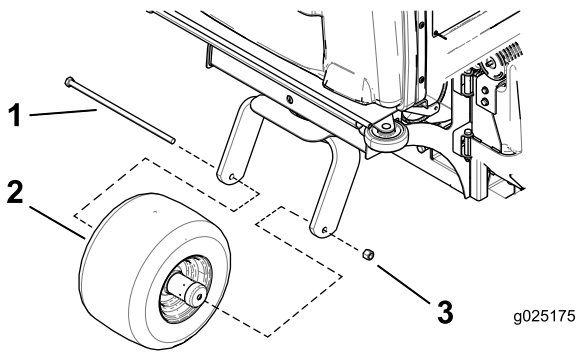

Figure 2
5. Install the rear caster wheel to the rear caster fork with a bolt (1/2 x 13 inches) and locknut (1/2 inch) (Figure 2).